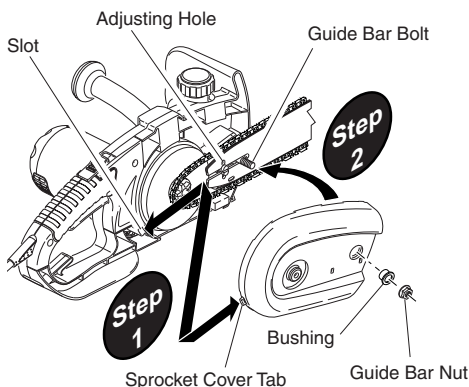

Figure 7 - Installing Sprocket Cover
7. Insert tab of sprocket cover into slot on unibody and rotate sprocket cover onto guide bar bolt until sprocket cover rests against guide bar (see Figure 7, page 8).
9. Turning chain tensioning screw, adjust position of adjustment block until it is aligned and inserted into the round adjusting hole on guide bar (see Figures 7 and 8). Turning screw counterclockwise will move adjustment block to rear of guide bar. Turning screw clockwise will move adjustment block to front of guide bar.